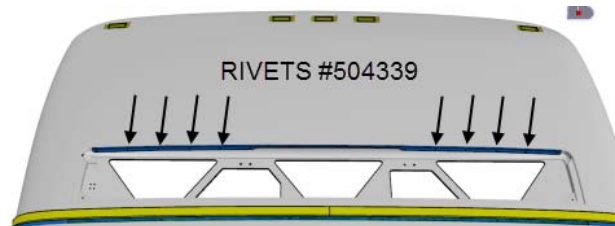

FIGURE 50
11. Fasten the drip edge using eight (8) rivets #504339 as shown on FIGURE 50.